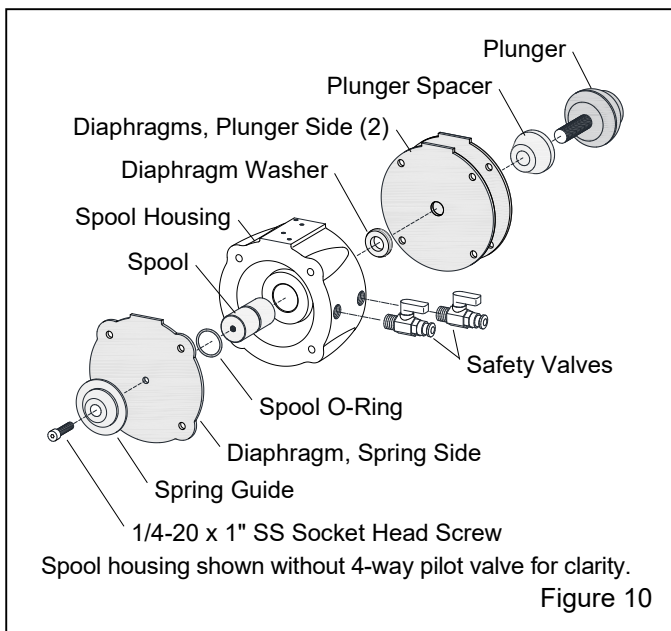

Figure 10
4.4 Spool Housing Assembly – Figure 10
3. Push the 1" socket head screw through the recessed side of the spring guide and through the spring-side diaphragm, as shown in Figure 10.